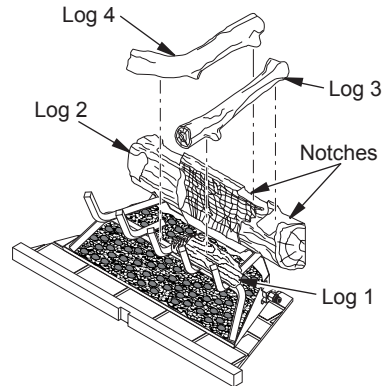
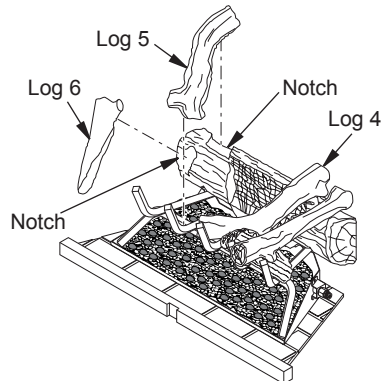
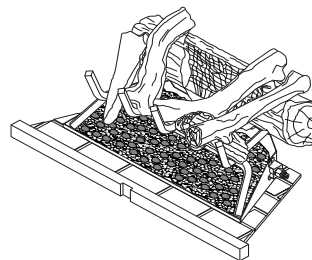

Figure 24 - Installing Logs 3 and 4
Figure 25 - Installing Logs 5 and 6
Figure 26 - Logs Installed for M36E, M36EP, VME36 and VM36EP Models
3. Place log 3 into notch on log 2, resting the front end on top of log 1 (see Figure 24).
4. Place the upper end of log 4 into the notch on log 2 as shown in Figure 24. Rest the lower end of log 4 onto the middle grate finger as shown in Figure 25.
5. Place the upper end of log 5 into notch on the left of log 2 (see Figure 25). Rest the lower end of log 5 on the grate as shown in Figure 26.
6. Insert the lower end of log 6 between the first two grate fingers as shown in Figure 26 and position the upper end of log 6 into the notched area on the front of log 2 as shown in Figure 26.